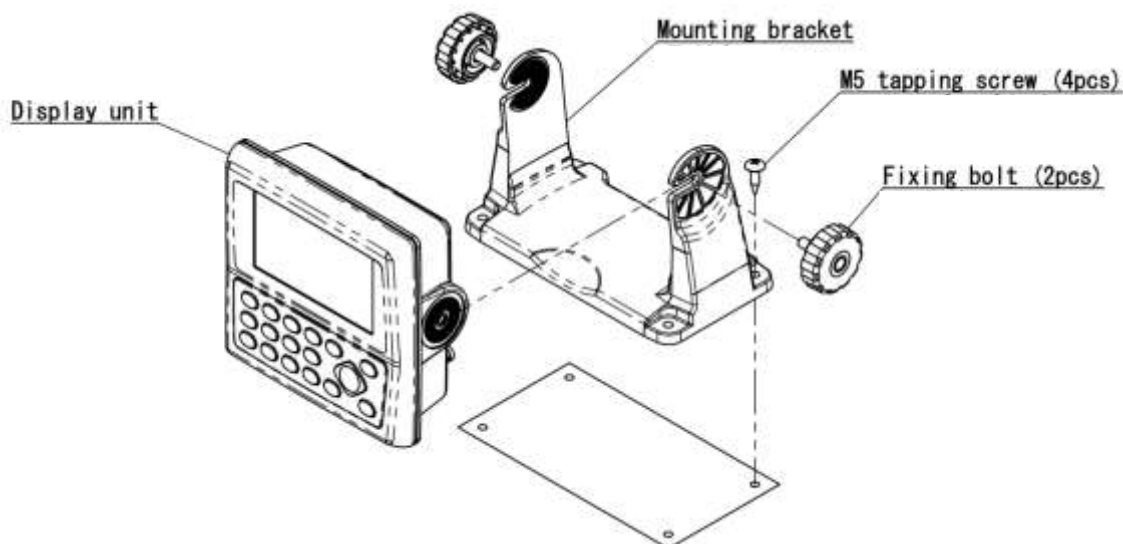

Figure 7.1 Fitting detail of KRD-10 in table mounting mode
The Display unit is designed for table mount and flush mount. Refer to Figure 7.1, 7.2 or 7.3 for installation.
- (1) Remove the two knurled fixing knobs that fix the Display unit to the mounting bracket.
- (2) Remove the Display unit from the bracket and place it on a flat and safe area.
- (3) Place the mounting bracket to the place where the Display unit is to be installed, and fix the bracket with four tapping screws.
- (4) Reset the Display unit on to the bracket and fix it using the two knurled fixing knobs that were removed in step (1). Refer to Figure 7.1 for detail.